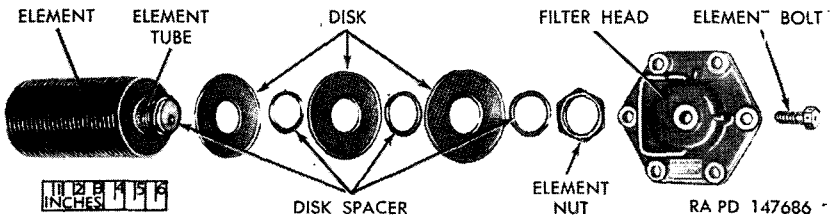

Figure 106. Oil filter element—exploded view.
b. **CLEANING.** Wash the filter element in volatile mineral spirits or dry-cleaning solvent. Remove all foreign matter adhering to the filter. Disassemble oil filter element (fig. 106) and immerse the disks in a bath of clean volatile mineral spirits or dry-cleaning solvent, then dry thoroughly with compressed air. Clean all metallic particles from the magnetic drain plug. Assemble filter element with alternate disks and disk spacers.